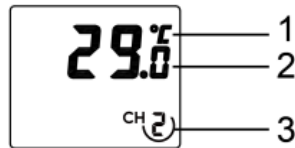

Figure 4
6. Verify the correct channel number (CH) and temperature units of measure ($^{\circ}\text{F}$ vs. $^{\circ}\text{C}$) are on the display, as shown in Figure 4.